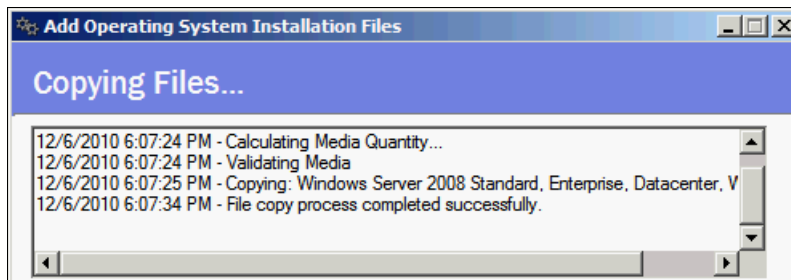

Figure 8-47 The file copy process completed successfully
- e. When the file copy process completes, as shown in Figure 8-47, click **Finish**.